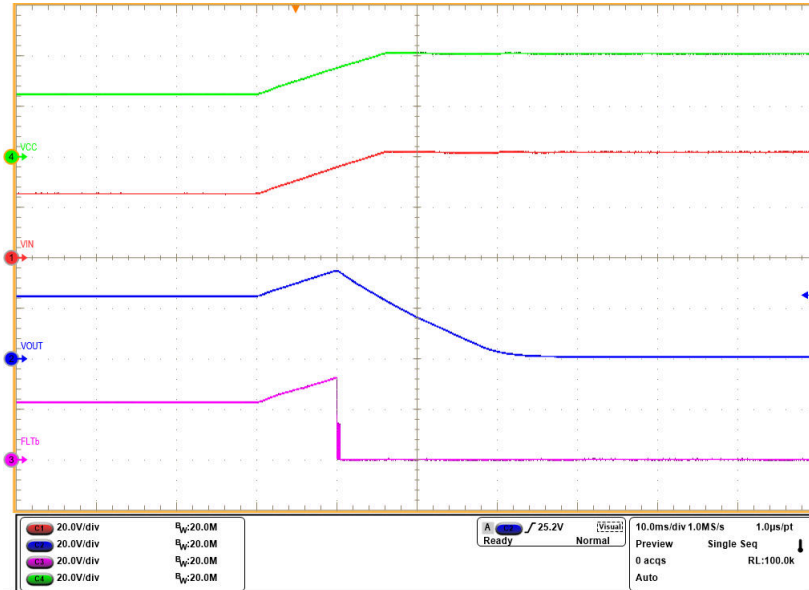

Figure 5-5. Overvoltage Protection Response for IN Voltage from 24 V to 40 V
4. Increase the input supply VIN from 24 V to 40 V and observe the response as shown in Figure 5-5.